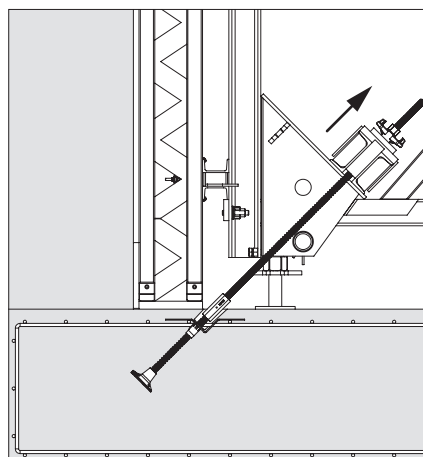

Fig. E2.07a
2. Remove recoverable tie components. (Fig. E2.07a)